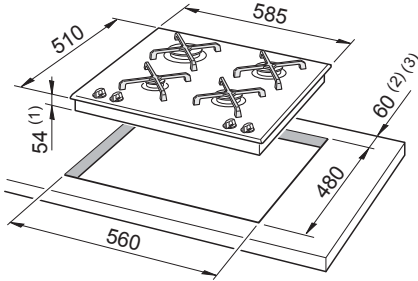

Figure 3a
The installation shall comply with the dimensions in figures 3a, 3b or 3c and 4a, 4b or 4c, bearing in mind that:
- having the cooktop spaced away from the wall (see figures 3a, 3b or 3c and 4a, 4b or 4c);
- Cut the unit according to the dimensions in fig. 3a or 3b.